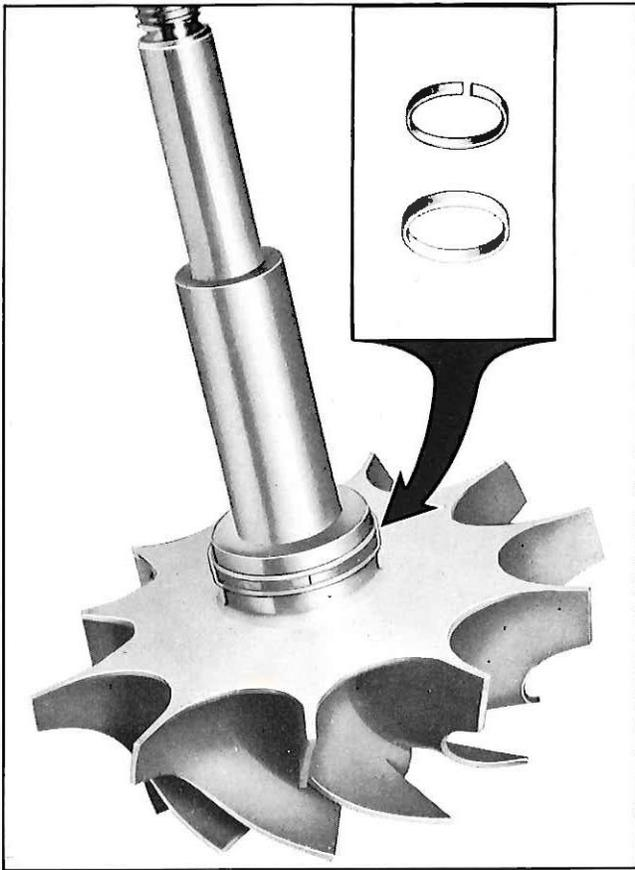

Fig. 32—Compressing Ring, Using Plastic Installer Ring
11. Lubricate the turbine shaft seal ring groove with oil and install ring into groove. Compress the ring into the groove using tag wire (fig. 31) or a plastic compression ring (fig. 32). If tag wire is used, make one twist with pliers and bend the wire to form it along the curvature of shaft and wheel back face as shown in Figure 31. (Remember direction of twist for removal.)